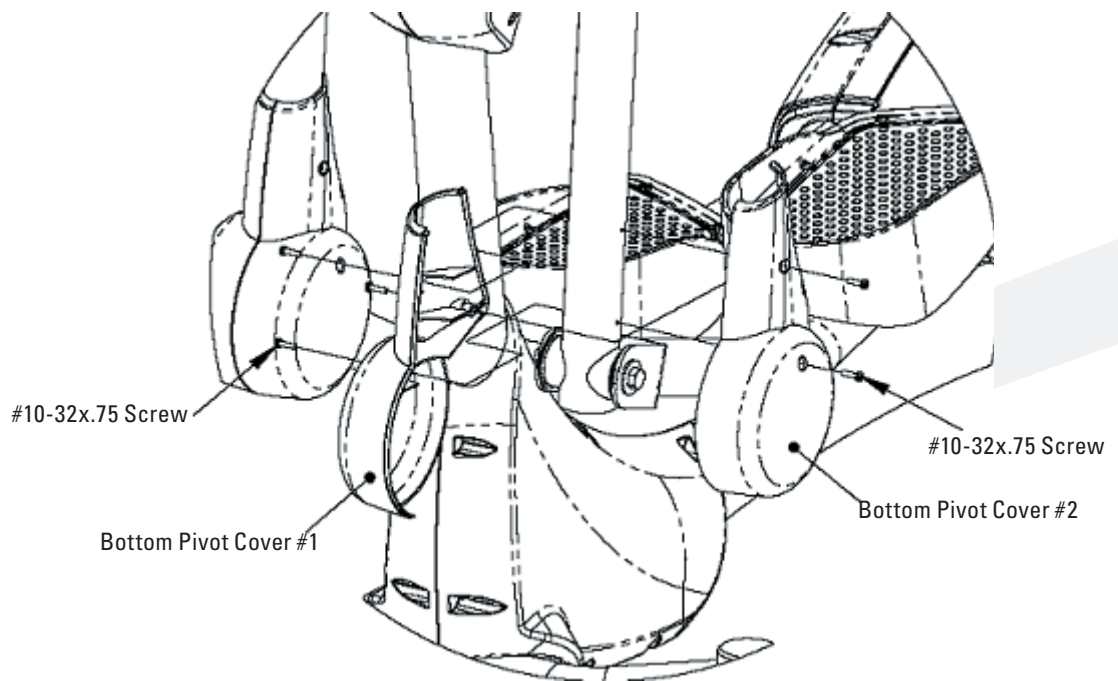

Figure 7
23. Install the (1) Bottom Pivot Cover #1 and (1) Bottom Pivot Cover #2 and align the holes at the sides of the swing arm tube (see Figure 7).
24. Install and tighten (5) #10-32 Phillips head screws. This requires a #2 Phillips head screwdriver.